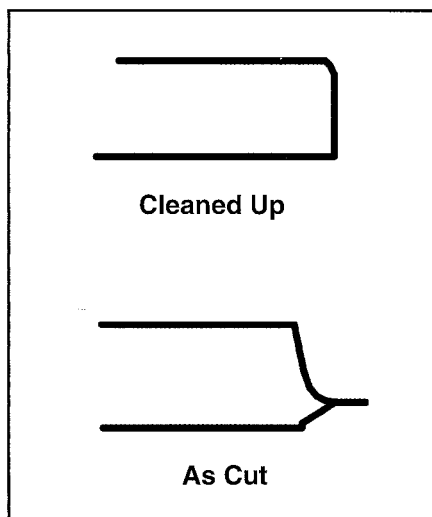
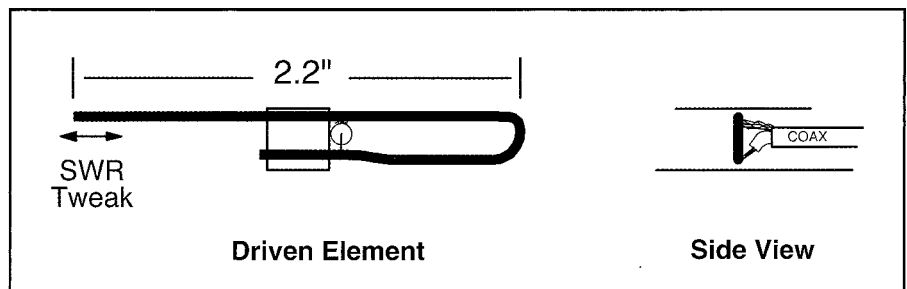

Figure 1. Element ends.
Figure 2. Driven element of both the 6-element and 11-element versions.
When things get small, little things become big things. Just how the ends of the elements are cut makes a difference (figure 1). My prototype wouldn’t tune up until I cleaned up the jagged ends of the elements. A few quick strokes with a flat file—or in my case, a sander on the belt sander—fixed the problem. The antennas covered here have similar dimensions (figure 2 and Table I), and
*Driven element is per figure 2 for both Yagis.